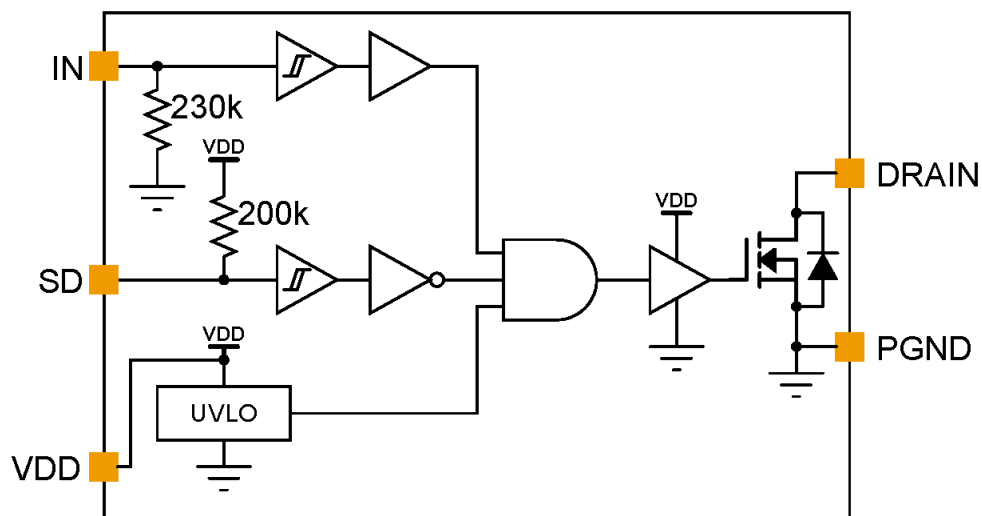

Figure 3. Functional Block Diagram
The input pins (IN and SD) of the CSD43301Q5M are based on a TTL/CMOS compatible input threshold logic that is independent of the V_{DD} supply voltage. With a typical high threshold of 2.2 V and a typical low threshold of 1.2 V, the logic level thresholds can be conveniently driven with PWM control signals derived from 3.3-V or 5-V digital power controllers. Wider hysteresis (typical of 0.8 V) offers enhanced noise immunity compared to traditional TTL logic implementations, where the hysteresis is typically less than 0.5 V. These devices also feature tight control of the input pin threshold voltage levels which eases system design considerations and ensures stable operation across temperature. The very low input capacitance on these pins reduces loading and increases switching speed. The device features an important safety function wherein, whenever any of the input pins are in a floating condition, the output of the respective channel is held in the low state. This is achieved using a V_{DD} pull-up resistor on the SD input or a GND pull-down resistor on the IN input. This can be seen in the block diagram in Figure 3.
- Changed Figure 3 4